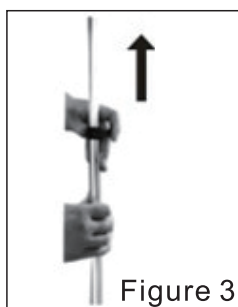
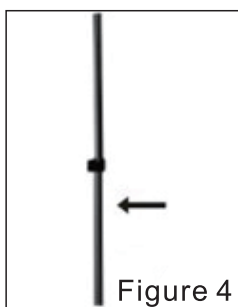

Figure 3
Figure 4
- ④ Pull open the two locking buttons (as shown in Figure 3) and pull up the extension-type aluminum pole, to pull out the three aluminum pole sections and adjust to a appropriate position, and then press the button (as shown in Figure 4)
- ⑤ As shown in Figure 4, insert the vapor hose into the vapor outlet of the main body, and tighten the vapor hose fixing knob clockwise.